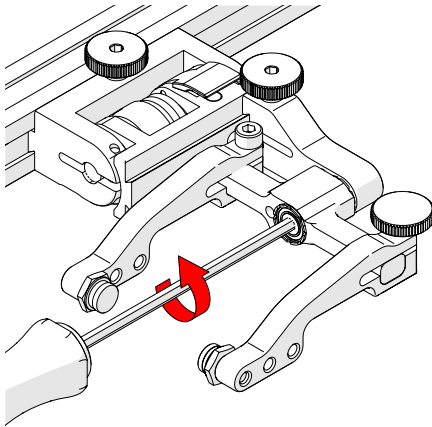

Fig. 92 - Unscrew yoke pivot screw
1. Unscrew the yoke from the swing arm (Fig. 92).